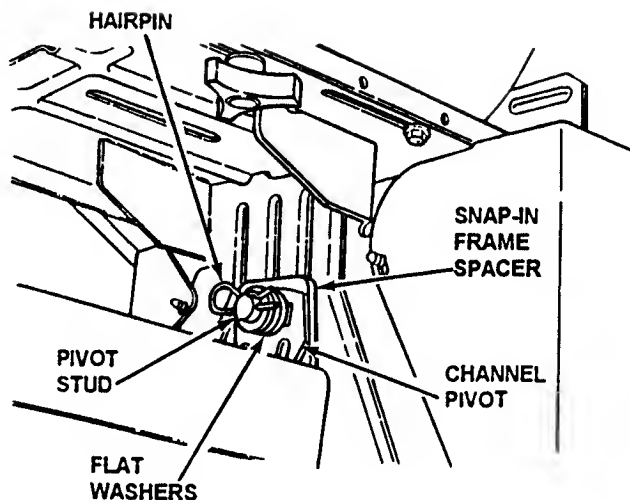

FIGURE 4.2
- a. Remove hairpin and flat washers from pivot stud. See Figure 4.2.
- d. Reinstall the required amount of flat washers removed in step "a." and install hairpin. Refer to Figure 4.2. Retain any remaining spacers for readjustment when a new belt is installed.